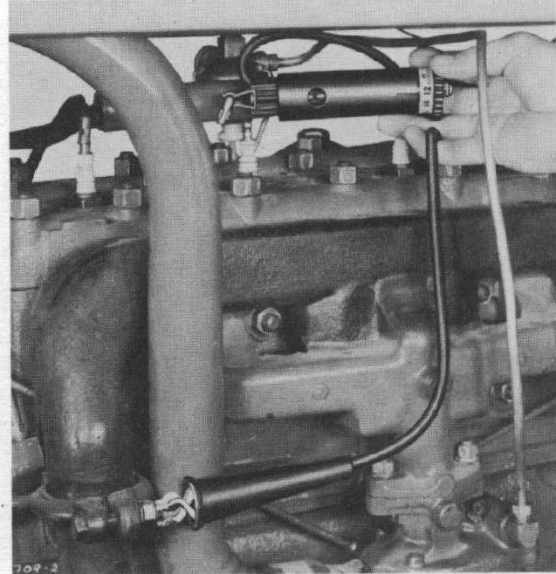

Fig. 14
- Step 4—Pick up each spark plug wire in turn (as shown in Figure 14) and determine the maximum gap the spark will jump without missing. The gap is determined by adjusting the calibrated scale on the spark tester. (The spark meter should be set at 14 KV and the spark must jump without missing.) Check the specifications sheet accompanying this Job Plan for the correct gap spacing. Too small a kilovolt reading indicates a weak and unsatisfactory spark. Low spark intensity at all plugs probably indicates a weak ignition coil. Low spark intensity at any one spark plug indicates a leaky cable.